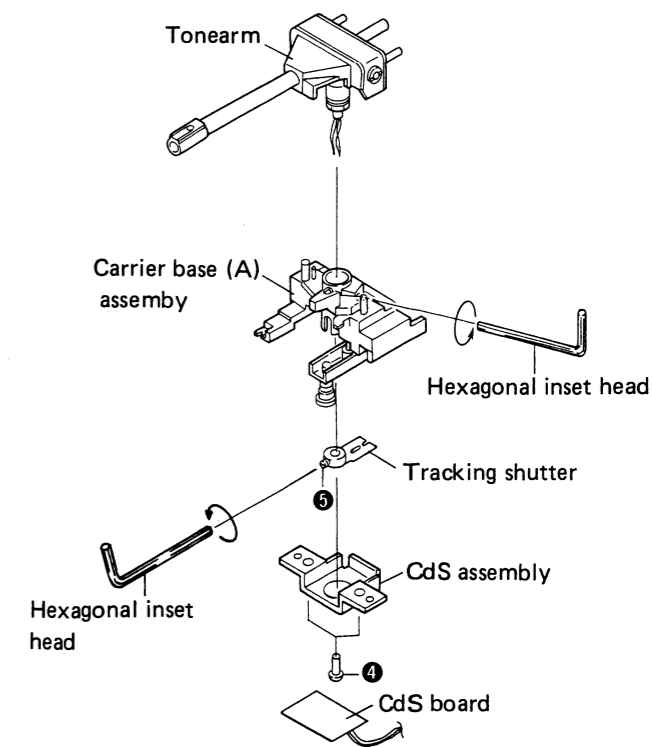

Fig. 3-7 Remove the tonearm 2
2. The CdS ass'y may be removed by unscrewing the two screws ❶. The tracking shutter section is secured to the arm pivot by screw ❷. Then by loosening the carrier base (A) ass'y tonearm securing screw (hexagonal inset head), the tonearm may be gently removed (Fig. 3-7).